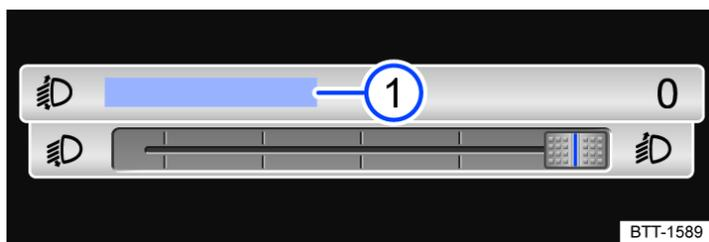

Fig. 1 In the Infotainment system: touch slider for headlight range control.
With some equipment levels, the headlight range can be adjusted with the slider in the Infotainment system → Fig. 1.
4. Tap the function button **Headlight range control** → Fig. 1 1.